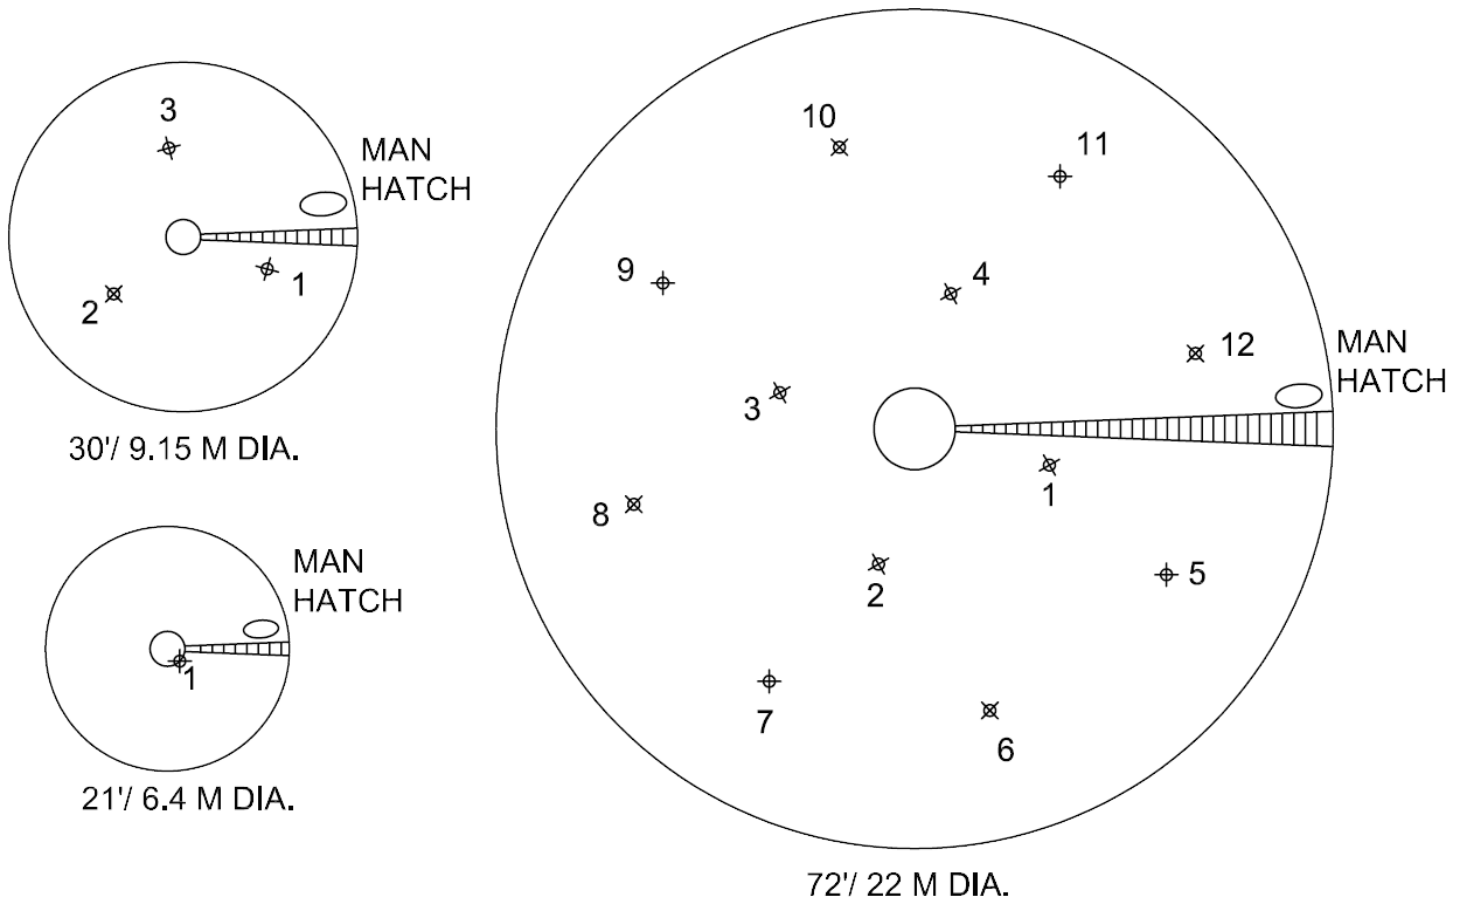

Figure 6 Temperature Cable Numbering
- See Figure 6 Temperature Cable Numbering